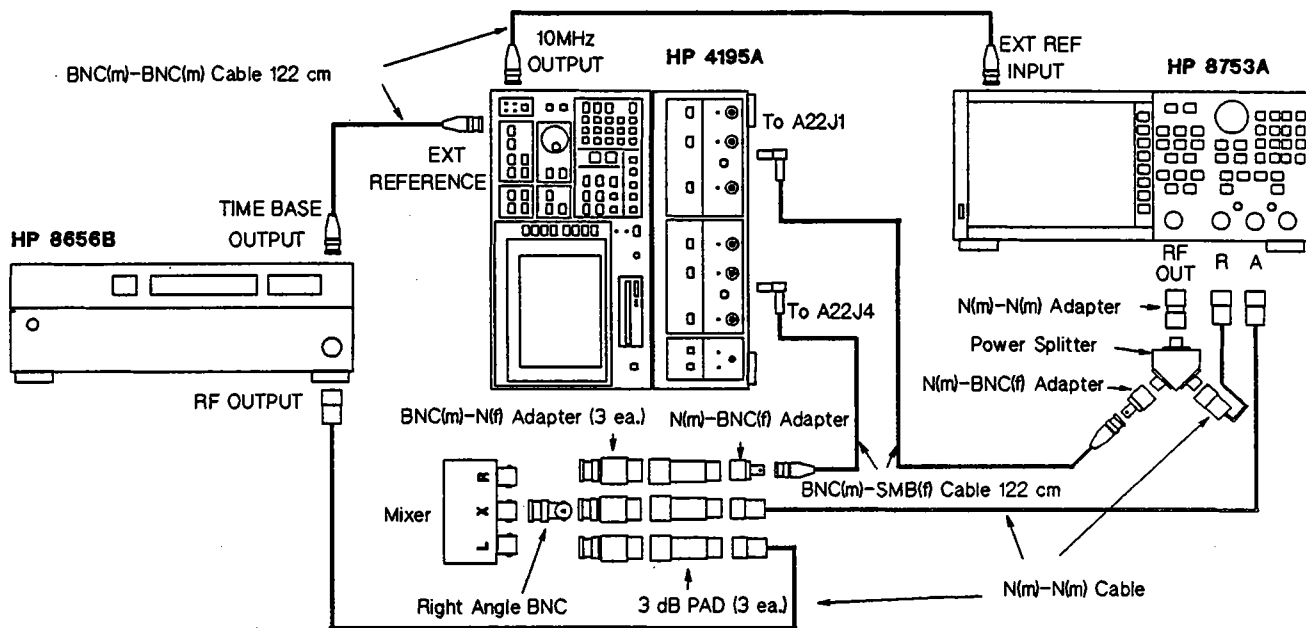
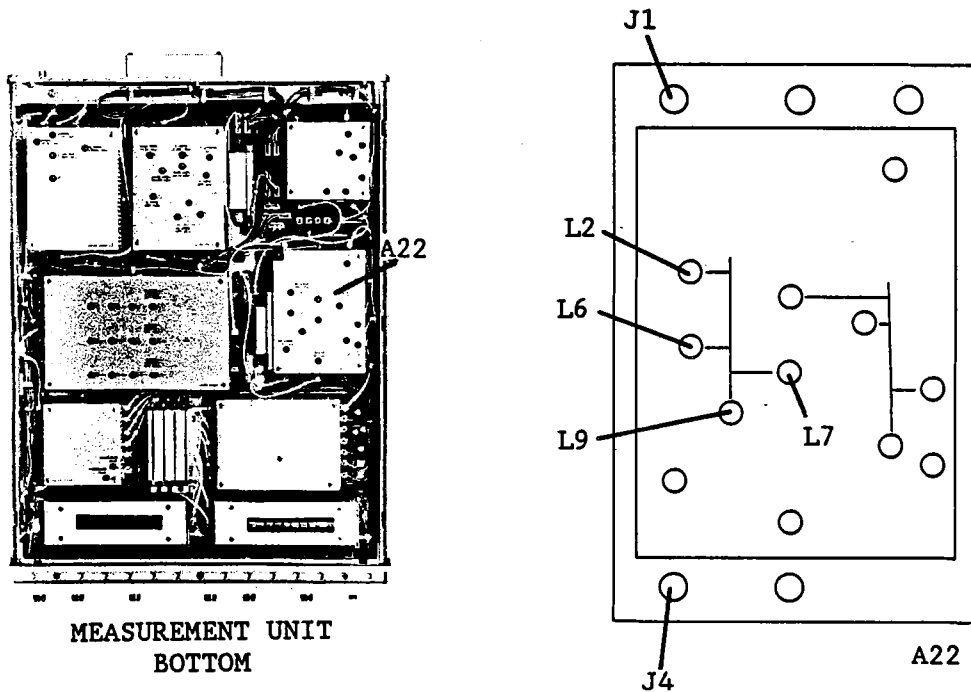

Figure 3-62. Receiver First IF Converter BPF Adjustment Setup
Figure 3-63. Receiver First IF Converter 86.6 MHz BPF Adjustment Locations
1. Connect the equipment as shown in Figure 3-62. See Figure 3-63 for A22J1 and J4 locations.